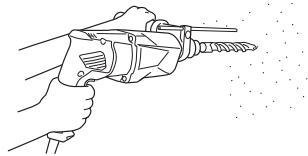

Fig. 8
- (1) Mount the drill bit.
- (2) Pull the trigger switch after applying the drill bit tip to the drilling position (Fig. 8)
When the drill bit touches an iron reinforcing rod, the bit will stop immediately and the rotary hammer will react to revolve. Therefore please grip the side handle and handle tightly as shown in Fig. 8.